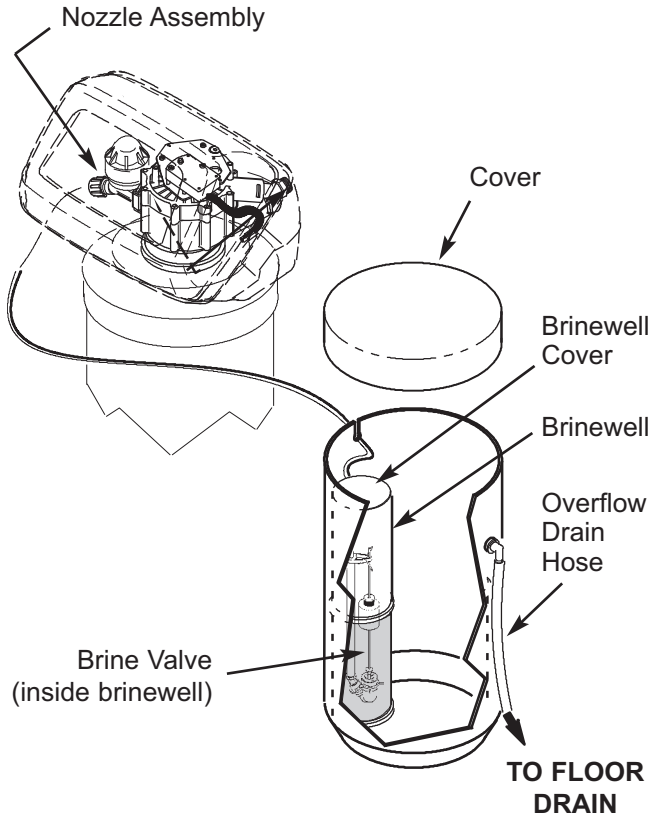

FIG. 10
- a. Run the 5/16" tubing from the brine valve to the nozzle assembly on the filter (See Figure 10). Use slots in the tank and both brinewells to hold tubing in place.